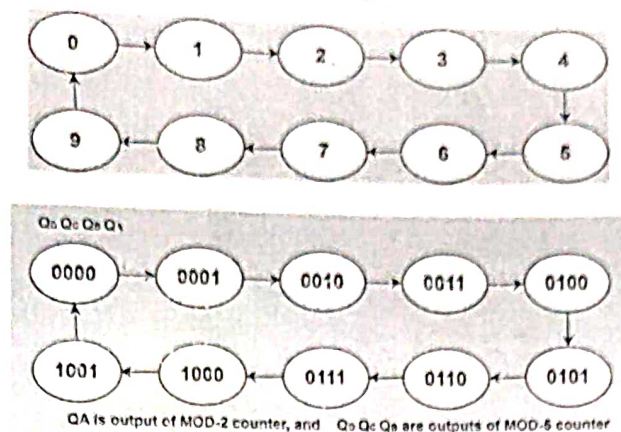

Figure 3: State diagram of MoD-10 Counter
- IC 7490 BCD Decade Counter:** It is a 14 pin IC, which can output the binary numbers from 0000 to 1001. After 1001 it gets resets and again starts counting from zero, as shown in Figure 3 & 4. Since, IC 7490 gets reset after counting ten numbers, it is called MOD-10 or Decade Counter. This IC takes 10 clock pulses to generate BCD code corresponding to each clock pulse. The outputs QA, QB, QC and QD are four bits of the BCD code.